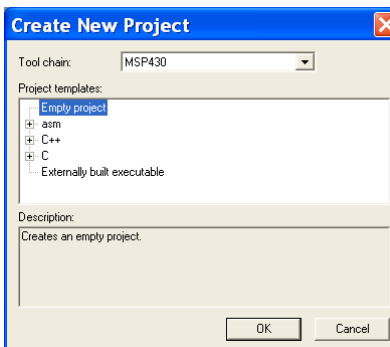

Figure 2. Create New Project dialog box.
1.1. To create a new project, choose *Project > Create New Project*. The *Create New Project* dialog box appears (Figure 2), which lets you base your new project on a project template. Make sure the Tool chain is set to MSP430, and click *OK*. For this tutorial, select the project template *Empty project*, which simply creates an empty project that uses default project settings.